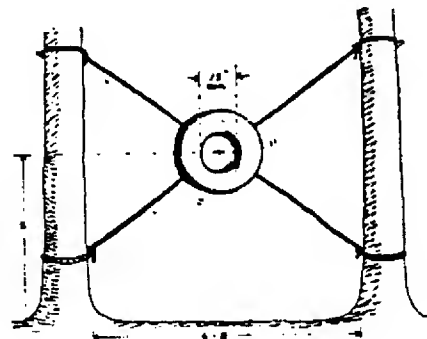

Figure 413 The Porthole
36. The Porthole: A tire is secured between two trees as shown in Figure 413. The group tries to get each member through the tire. The members may help each other when they are in front of the tire. After they have gone through the tire, they can no longer help other members on the front side but may help them on the way out of the tire. The last member receives no help in getting up, but may be helped down.